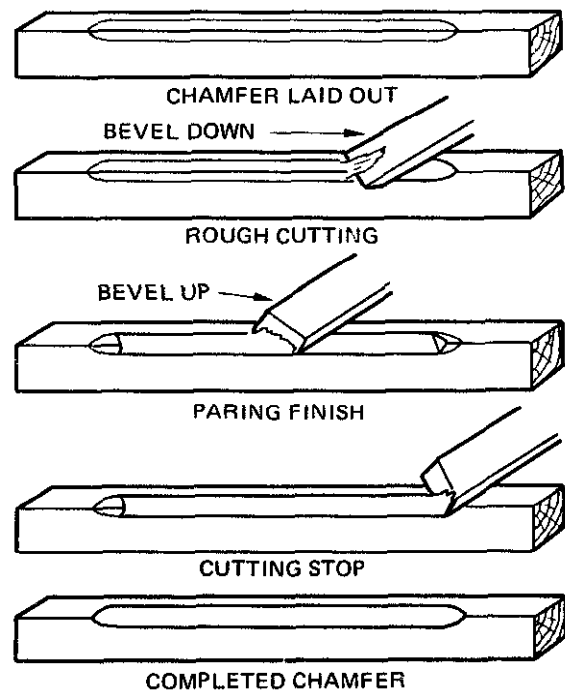

Fig. 9-27 Procedure for cutting a stopped chamfer.
1. Lay out the chamfer, figure 9-27.